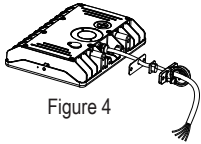

Figure 4
Step 1: Pull the wire through the metal spacer, rubber gasket and top half of the knuckle bracket. Install the top half using the 2 screws provided and an Allen key (3/16). (Figure 4,5)